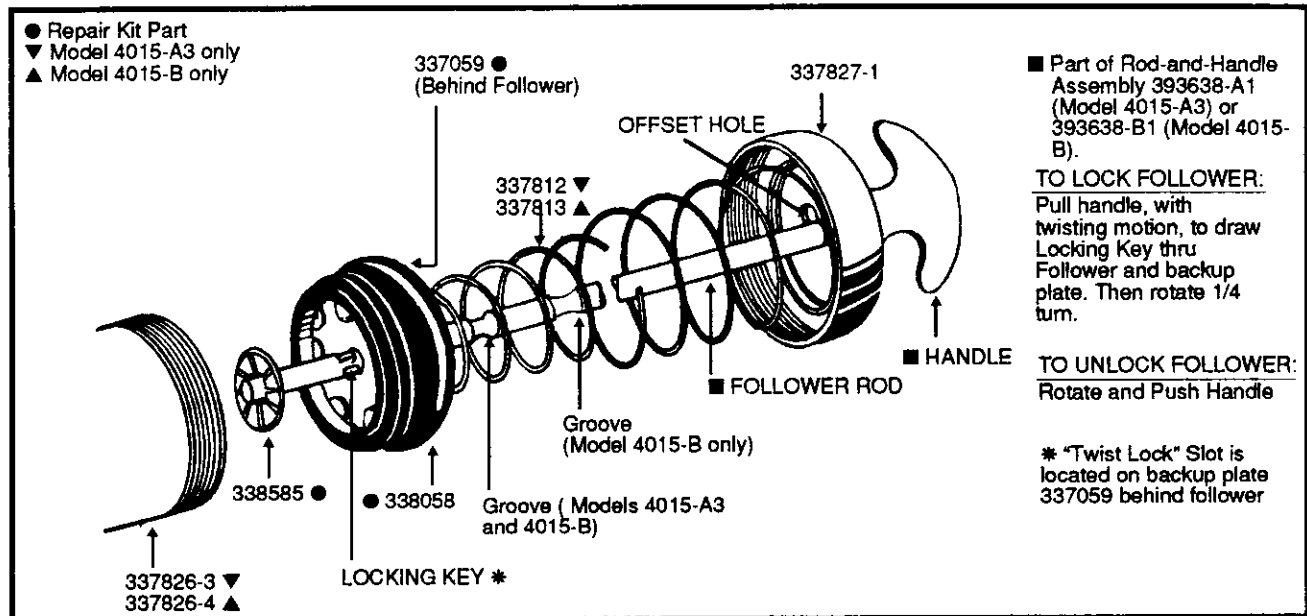

Figure 5: Cylinder Configuration with Locking and Unlocking Instructions
2. Pull follower rod out and engage groove on follower rod (first groove on 4015-B) with offset hole in end cap (Figure 5).
6. Release follower rod from end cap offset hole and push into cylinder (Figure 5).
4. Operate loader pump to fill cylinder until groove (second groove on Model 4015-B) on follower rod is exposed (Figure 5).
2. Pull out follower rod and engage locking key in "twist-lock" slot on follower backup plate 337059 (Figure 5).